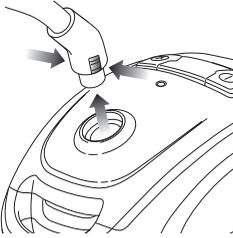

Fig. 9
- 2 Remove the flexible hose from the vacuum by squeezing the locking tabs on the neck of the hose and pulling it out. (Fig. 9)